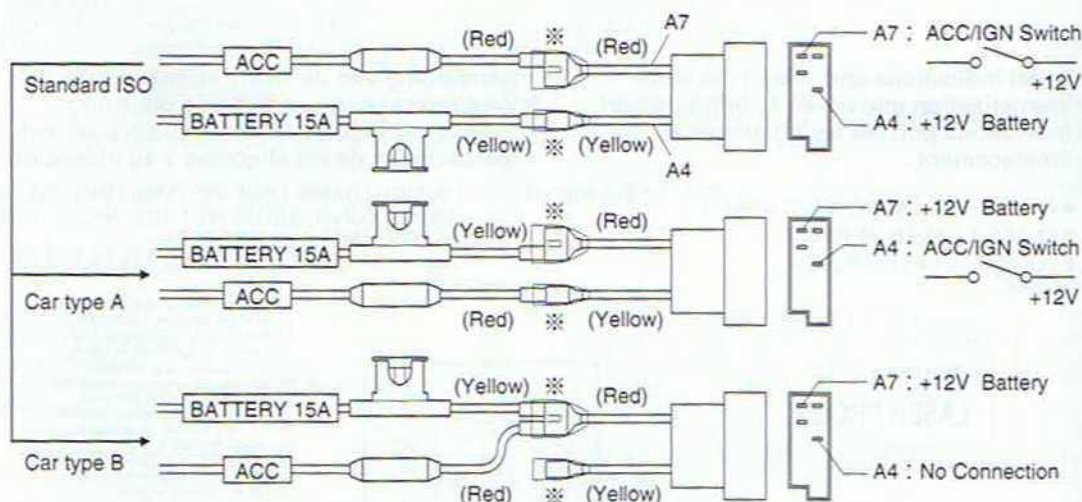

Fig.1
- In case of arrangement for Car type A or B, change connections of the red/yellow leads at the re-connectable joint (\*) as shown in Fig.1.